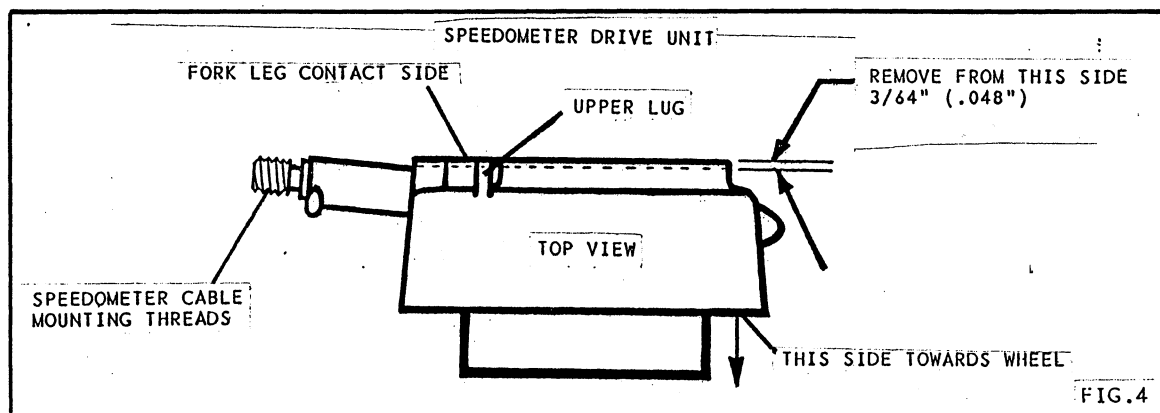

FIG.4
5. THE SPEEDOMETER DRIVE UNIT NEEDS TO BE MODIFIED TO ALLOW CLEARANCE FOR THE LEFT SIDE ROTOR COVER TO FIT BETWEEN IT AND THE FORK LEG SLIDER (FIG.2). IT MUST BE NARROWED BY 3/64" (.047"). THIS CAN BE DONE, VERY CAREFULLY, ON A BENCH GRINDER OR TAKE IT TO YOUR LOCAL MOTORCYCLE DEALER OR A MACHINE SHOP THAT HAS A LATHE (FIG.4).